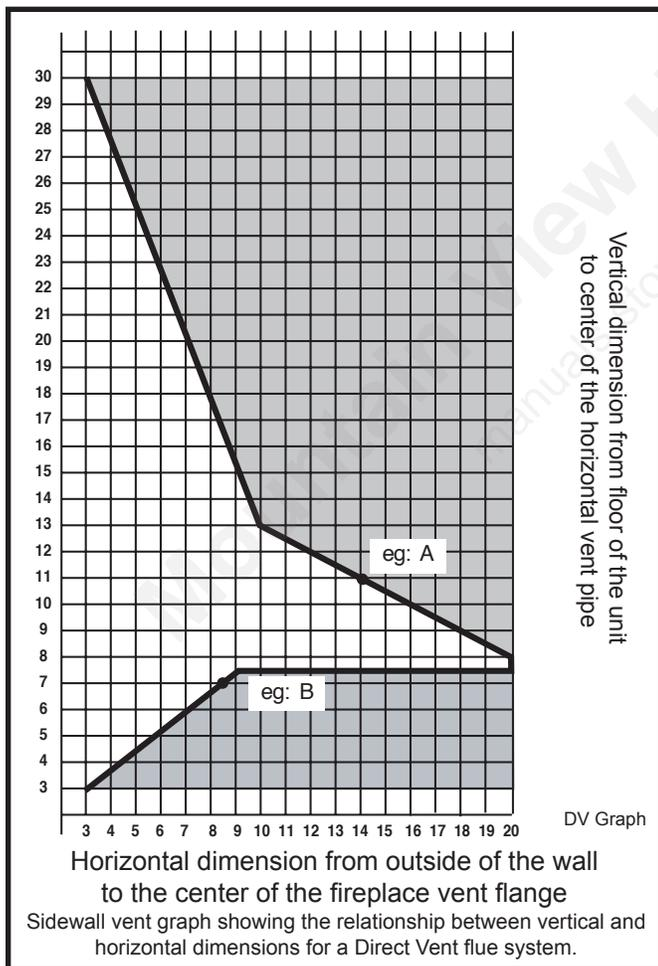

Fig. 16 Sidewall vent graph.
- The vent graph (Fig. 16), showing relationship between vertical and horizontal side wall venting, will help determine allowable dimensions.
- Example:** According to the vent graph (Fig. 16), the maximum horizontal vent length in a system with a 7½" (191mm) vertical rise is 20 ft. (6.1m), but if a 90° is required in the horizontal vent, it must be reduced to 17 ft. (5.2m).